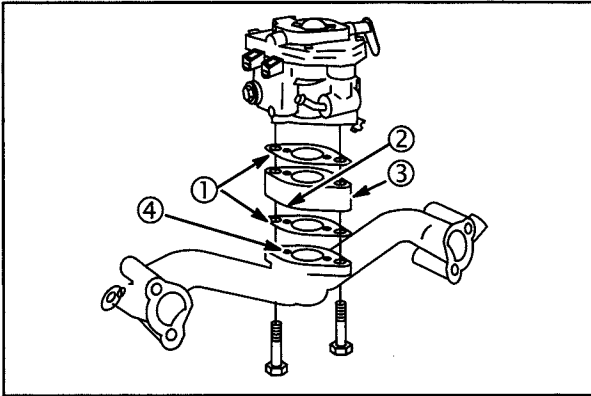

Fig. 29
1. Assemble gaskets (1), spacer (3) and carburetor to intake manifold, **Fig. 29**.